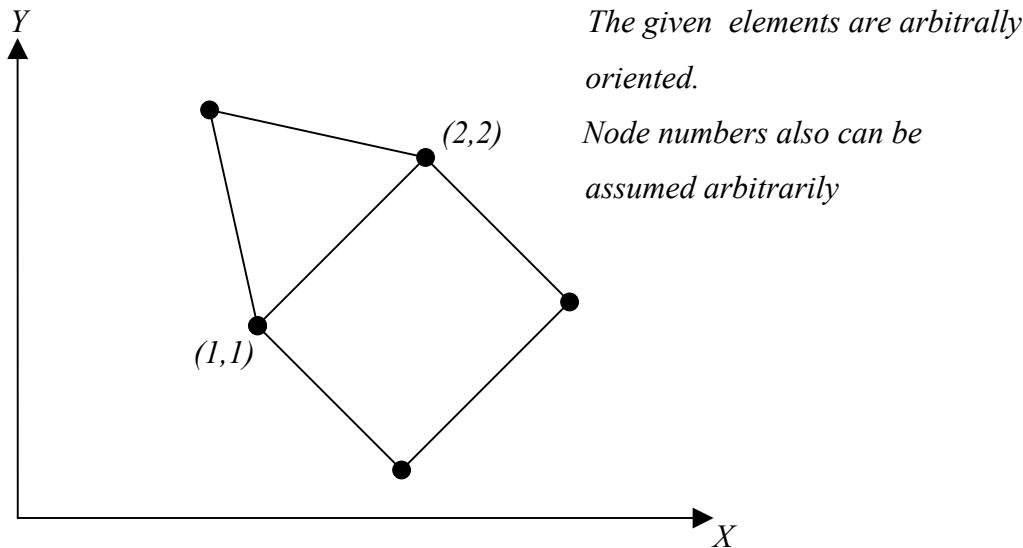

Figure 3. Isoparametric elements
**Q.3.** Two different isoparametric elements are used together as shown in Fig.3. There is inter element boundary between  $(x, y) = (1,1)$  and  $(x, y) = (2,2)$ . Show that the variable is continuous and compatible across the interface boundary. The interpolation function for the triangular element is  $u = a_0 + a_1x + a_2y$ , and for the quadrilateral element is  $u = b_0 + b_1x + b_2y + b_3xy$ .